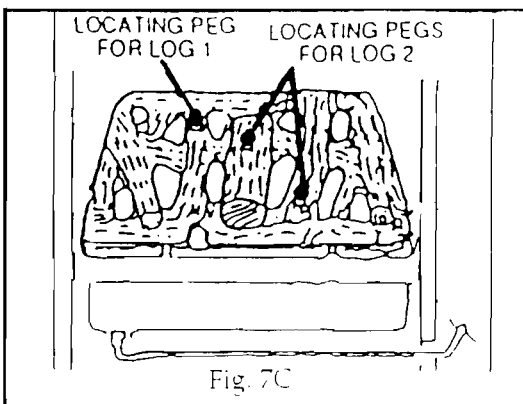

Fig. 7C
- (ii) Locate the log bed as shown in Fig. 7C. Ensure that the front end is retained in the front rail recess and the back end rests on the ceramic base.